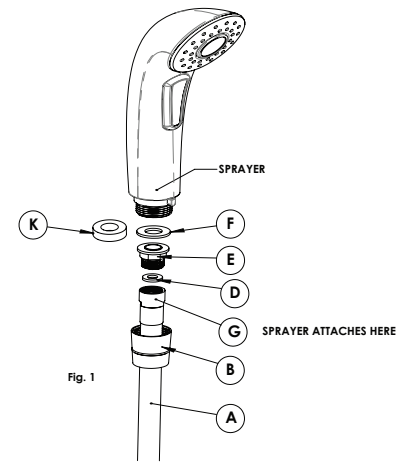
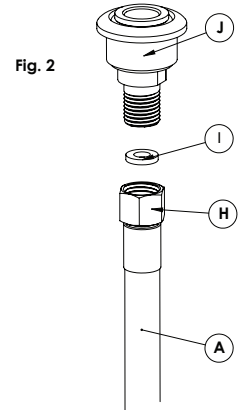
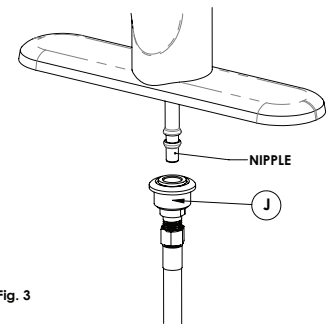
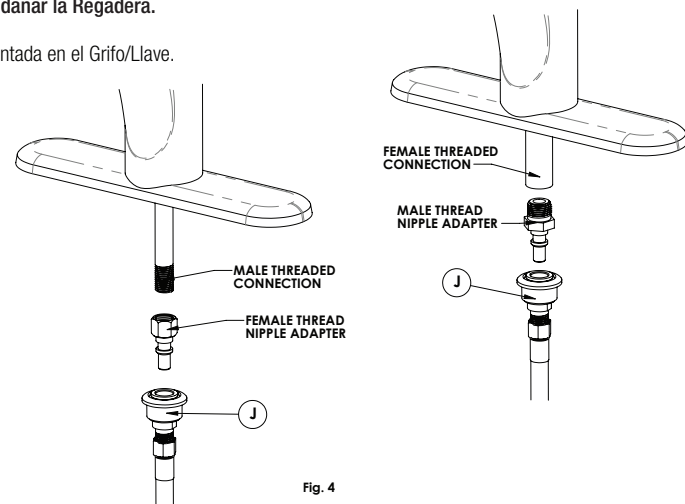

Fig. 1
Fig. 2
Fig. 3
Fig. 4
- a) Attach Hose to Sprayer (Fig. 1).
- i) Slide Ferrule Nut (B) over Round Nut (G) with threaded end toward Sprayer.
- ii) Insert Small Washer (D) into Round Nut (G).
- iii) Screw Ferrule Adapter (E) into Round Nut (G). Tighten gently with Adjustable Wrench and Adjustable Pliers. **Overtightening may damage the washer.**
- iv) Slide Ferrule Nut (B) up until Ferrule Adapter (E) is seated inside Ferrule Nut (B).
- v) There are two washers that fit the ferrule nut. Place the thinner of the two (F) on top of Ferrule adapter (E). Save the thick Washer (K). If Sprayer bottoms out before hitting the Washer, use the thicker Washer (K).
- vi) Screw Ferrule Nut (B) onto Sprayer. Hand Tighten Only. **Overtightening may damage Sprayer.**
- b) Attach Female Quick Connect (J) to Hose (A) (Fig. 2).
- i) Slide free end of Hose (A) downward through Faucet until Sprayer is fully seated in Faucet.
- ii) Insert Small Washer (I) into Hex Nut (H).
- iii) Screw Quick Connect Adapter (J) into Hex Nut (H).
- c) Determine Faucet Connection Type (Fig. 3 & 4).
- i) When attaching to Nipple type connection: (Fig. 3)
- (1) While pulling back on White Collar on Quick Connect Adapter (J), push Quick Connect Adapter (J) onto Nipple on Faucet Connector.
- (2) When fully seated, release White Collar. Tug Hose (A) to make sure Quick Connect Adapter (J) is secure.
- i) Use Fig. 4 to determine faucet connection type.
- v) While pulling back on White Collar on Quick Connect Adapter (J), push Quick Connect Adapter (J) onto Adapter nipple on Faucet connector. When fully seated, release White Collar.
- vi) Tug Hose (A) to make sure Quick Connect Adapter (J) is secure.
- vii) Turn **On** faucet water supply. **Check for leaks.** If leak occurs at Ferrule Nut (B), repeat step 4.a.v. using the thicker Washer (K).